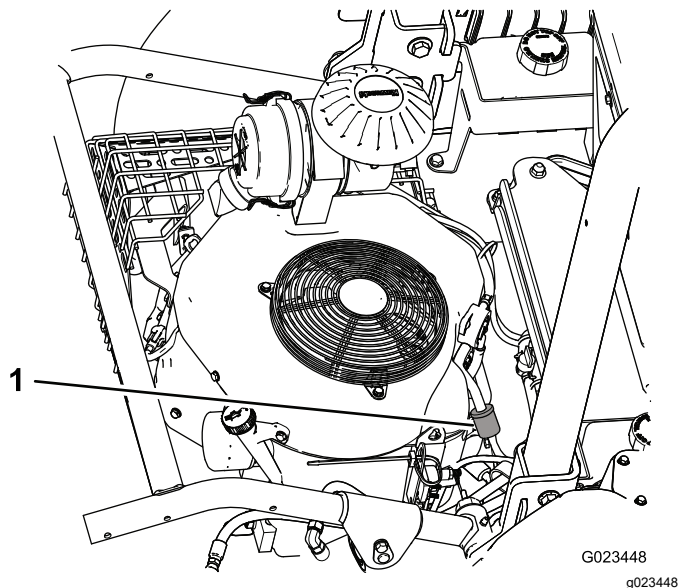
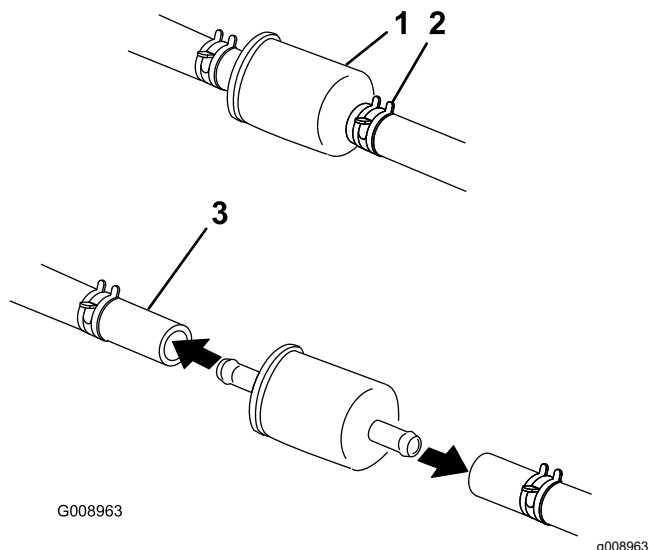

Figure 45
Figure 46
2. Loosen the hose clamp on the carburetor side of the filter, and remove the fuel line from the filter (Figure 45 and Figure 46).